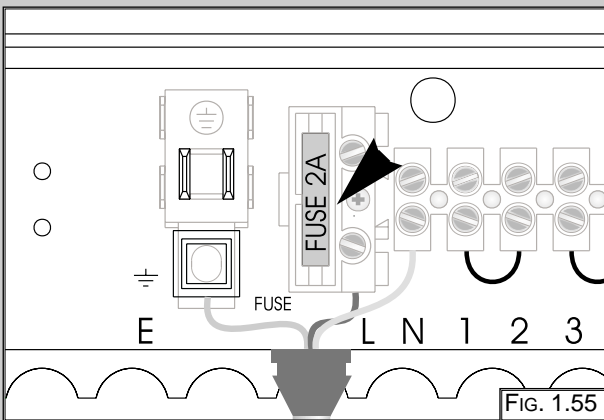

FIG. 1.55
2. Remove the fuse mounted on the reverse of the inspection cover (FIG. 1.55).